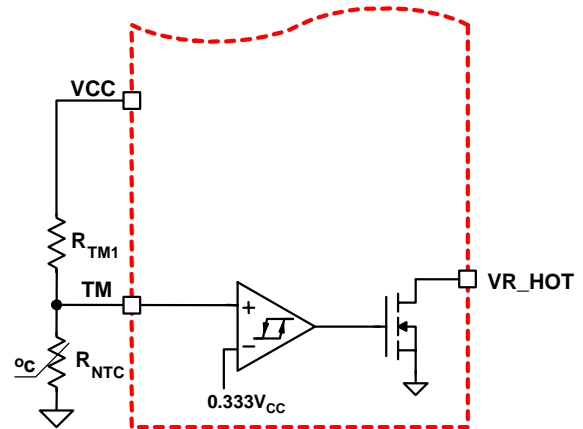
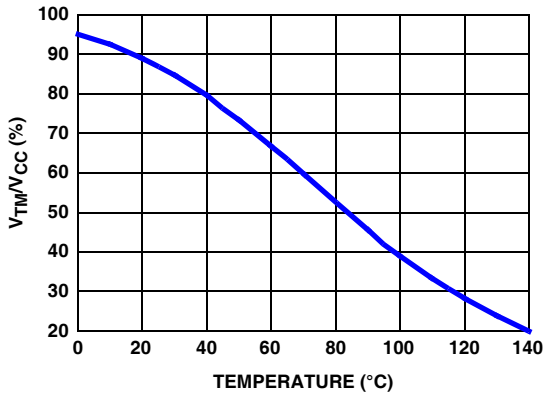

FIGURE 12. BLOCK DIAGRAM OF THERMAL MONITORING FUNCTION
FIGURE 13. THE RATIO OF TM VOLTAGE TO NTC TEMPERATURE WITH RECOMMENDED PARTS
The diagram of thermal monitoring function block is shown in Figure 12. One NTC resistor should be placed close to the power stage of the voltage regulator to sense the operational temperature, and one pull-up resistor is needed to form the voltage divider for the TM pin. As the temperature of the power stage increases, the resistance of the NTC will reduce, resulting in the reduced voltage at the TM pin. Figure 13 shows the TM voltage over the temperature for a typical design with a recommended 6.8kΩ NTC (P/N: NTHS0805N02N6801 from Vishay) and 1kΩ resistor RTM1.
Based on  $V_{CC}$  voltage, ISL6334B, ISL6334C converts the TM pin voltage to a 6-bit TM digital signal for temperature compensation. With the non-linear A/D converter of ISL6334B, ISL6334C, the TM digital signal is linearly proportional to the NTC temperature. For accurate temperature compensation, the ratio of the TM voltage to the NTC temperature of the practical design should be similar to that in Figure 13.
1. Properly choose the voltage divider for the TM pin to match the TM voltage vs temperature curve with the recommended curve in Figure 13.